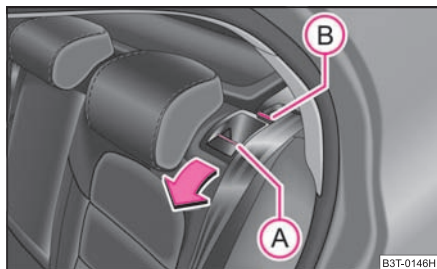

Fig. 68 Unlock the seat backrest
- Unlock the rear backrests by pressing the unlocking handle **(A)** ⇒ fig. 68 and fold completely forwards.
- Make sure that the red pin (B) is covered ⇒ page 76, fig. 68.